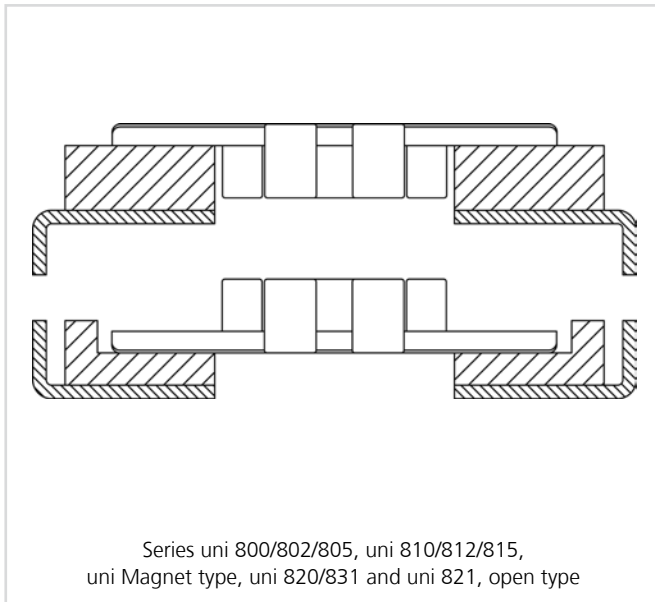
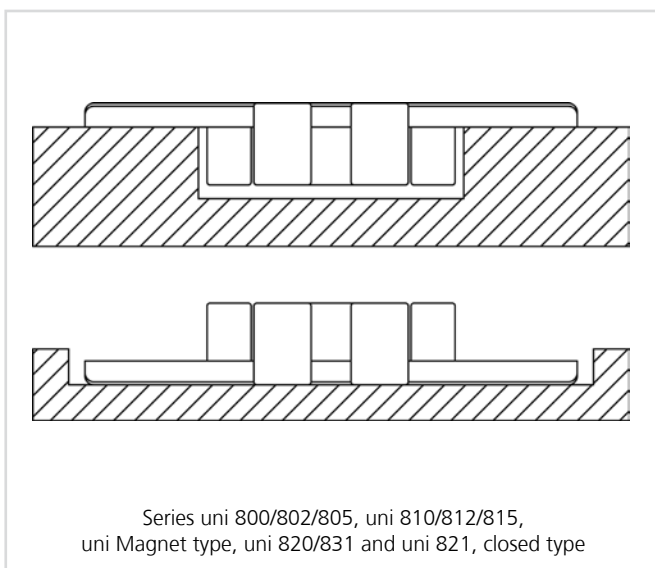
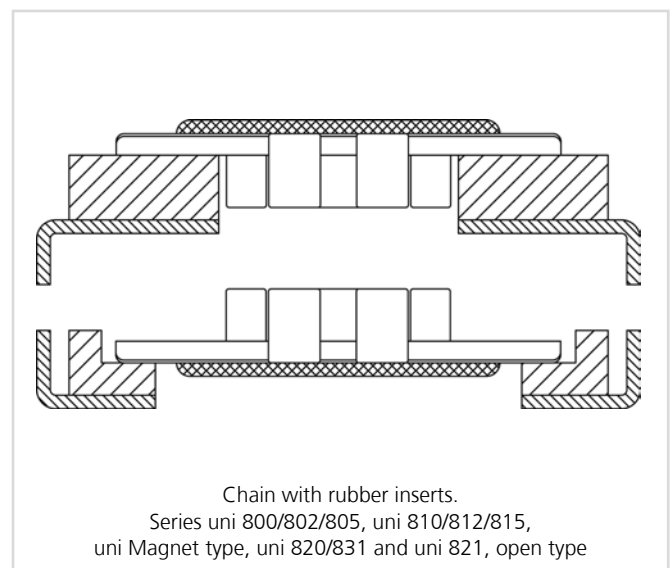

Figure 3-45
Figure 3-47
Figure 3-48
- Straight profiles can consist of one or several blocks with machined tracks. See figure 3-45, figure 3-47 and figure 3-48.